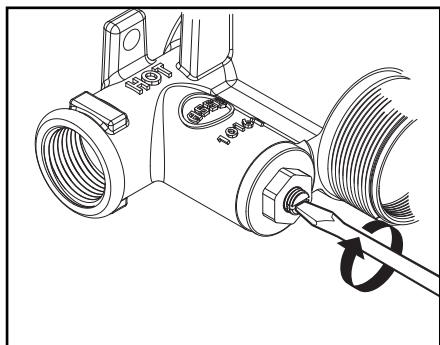

fig.1
1. If water supply shut off valves are not accessible or are not present, actuate the stops by rotating the stop stem clockwise. Do not over tighten stop stem as this could damage the check valve. (fig.1)